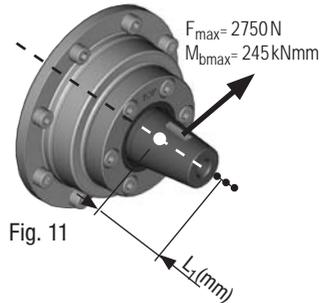

Fig. 11
- The force applied at the force engagement force by the belt tension (see Fig. 11) must not exceed  $F_{max} = 2750$  N.
- If the force engagement point shifts forwards (see Fig.11, small point), the force  $F_{max}$  reduces as per the following formula: